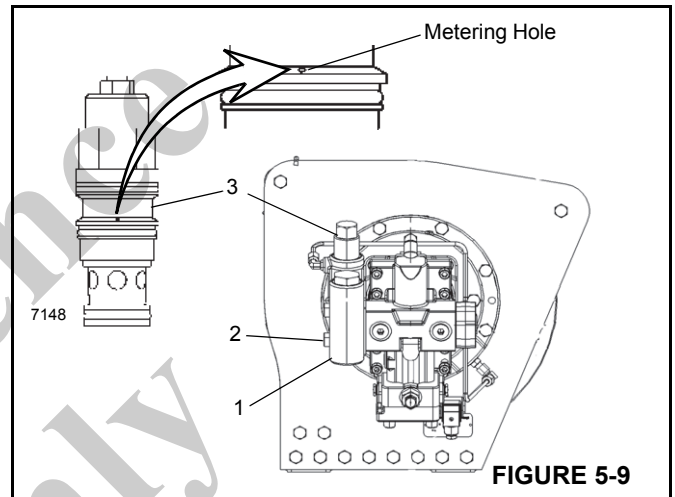

FIGURE 5-9
1. Remove the hose and the counterbalance block (1) from the motor assembly (Figure 5-9).
2. To remove the counterbalance block (1), loosen and remove the 4 capscrews (2).
3. Remove the counterbalance valve (3) from the counterbalance block (1) and inspect the small metering hole located on the side of the cartridge valve to make sure it is not obstructed. Inspect the O-rings to insure that they are not cut or flattened.